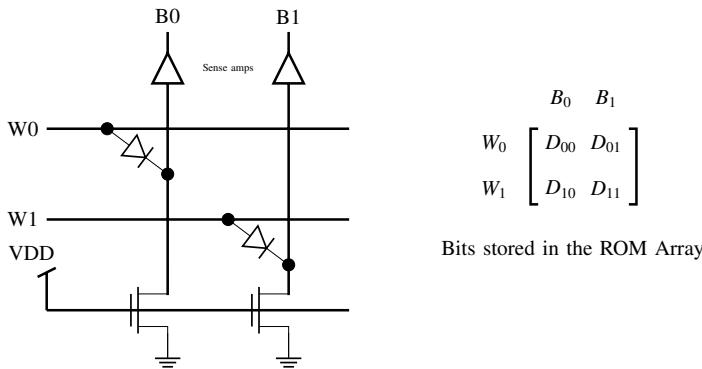

Fig. 3.30:  $2 \times 2$  ROM array
48. A  $2 \times 2$  ROM array is built with the help of diodes as shown in the circuit below in Fig. 3.30. Here  $W_0$  and  $W_1$  are signals that select the word lines and  $B_0$  and  $B_1$  are signals that are output of the sense amps based on the stored data corresponding to the bit lines during the read operation.